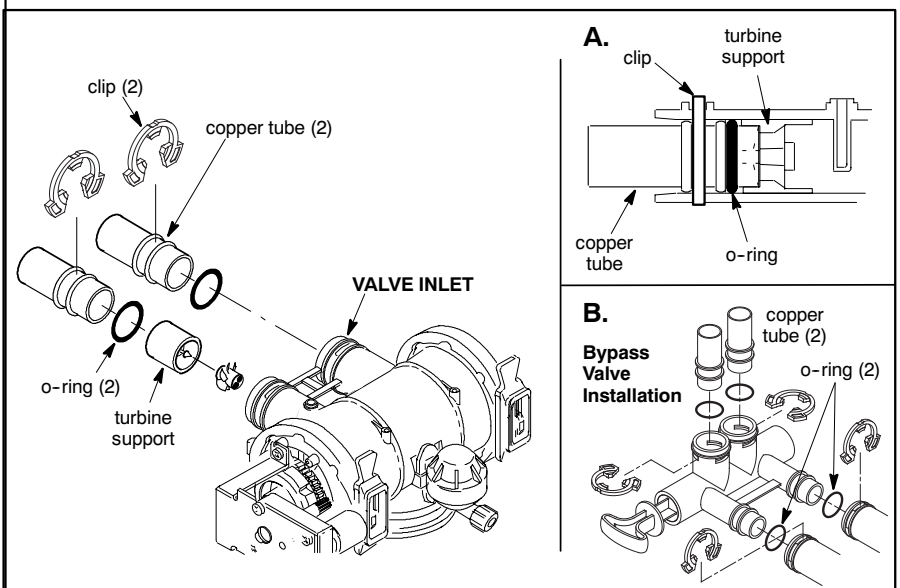

FIG. 3
- Slide a lubricated o-ring seal onto each of the copper tubes. Carefully insert the copper tubes into the bypass valve (See Figure 3B), or into the conditioner/refiner valve (Figures 3 & 3A). Then install the "C" clips.